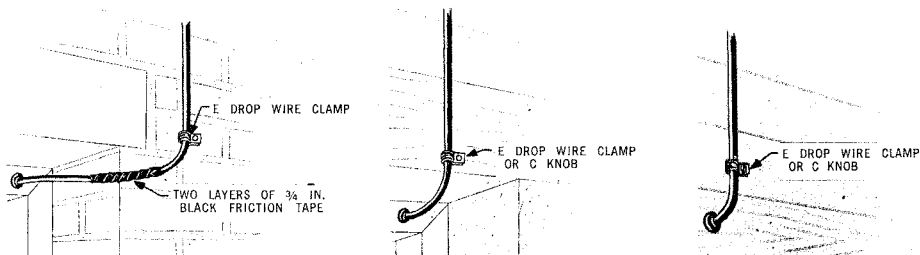

Fig. 16 — Last Attachment (Building Entrance Hole Slopes Upward from Outside)
19. LAST ATTACHMENTS ON BUILDINGS (Fig. 16 and 17)